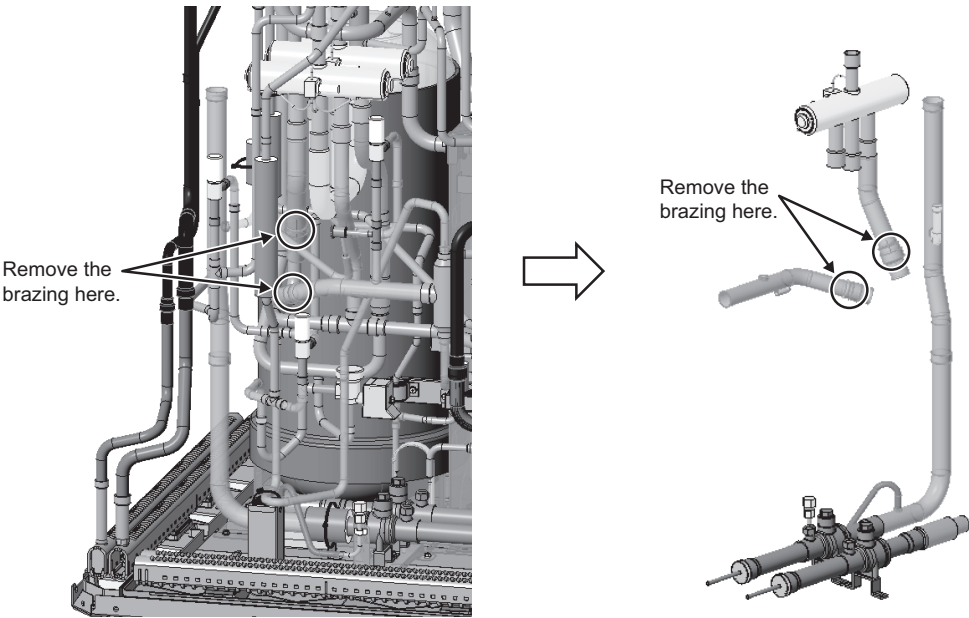

Fig. 6
(6) After removing the check valve assembly, remove the brazing from the pipe that was cut in step (3). (Two areas: Fig. 6)